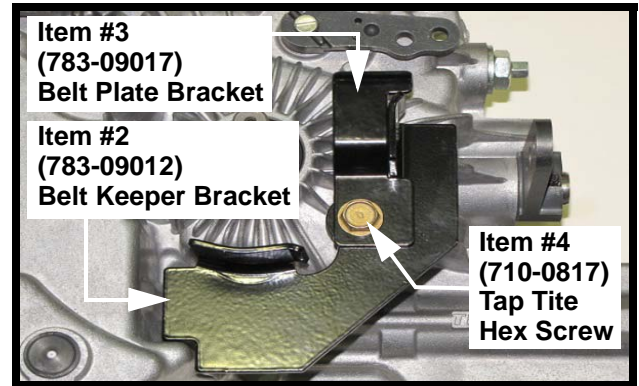

FIGURE 4
7. Place Item #2 (783-09012) Belt Keeper Bracket on top of the spacer, then place Item #3 (783-08017) Belt Plate Bracket on top of the belt keeper bracket. See Figure 4.
8. Install Item #4 (710-0817) 5/16-18 x 1.250" Tap Tite Hex Screw through items #2, #3 and #5. Torque to 180-220 in. lbs. See Figure 4.